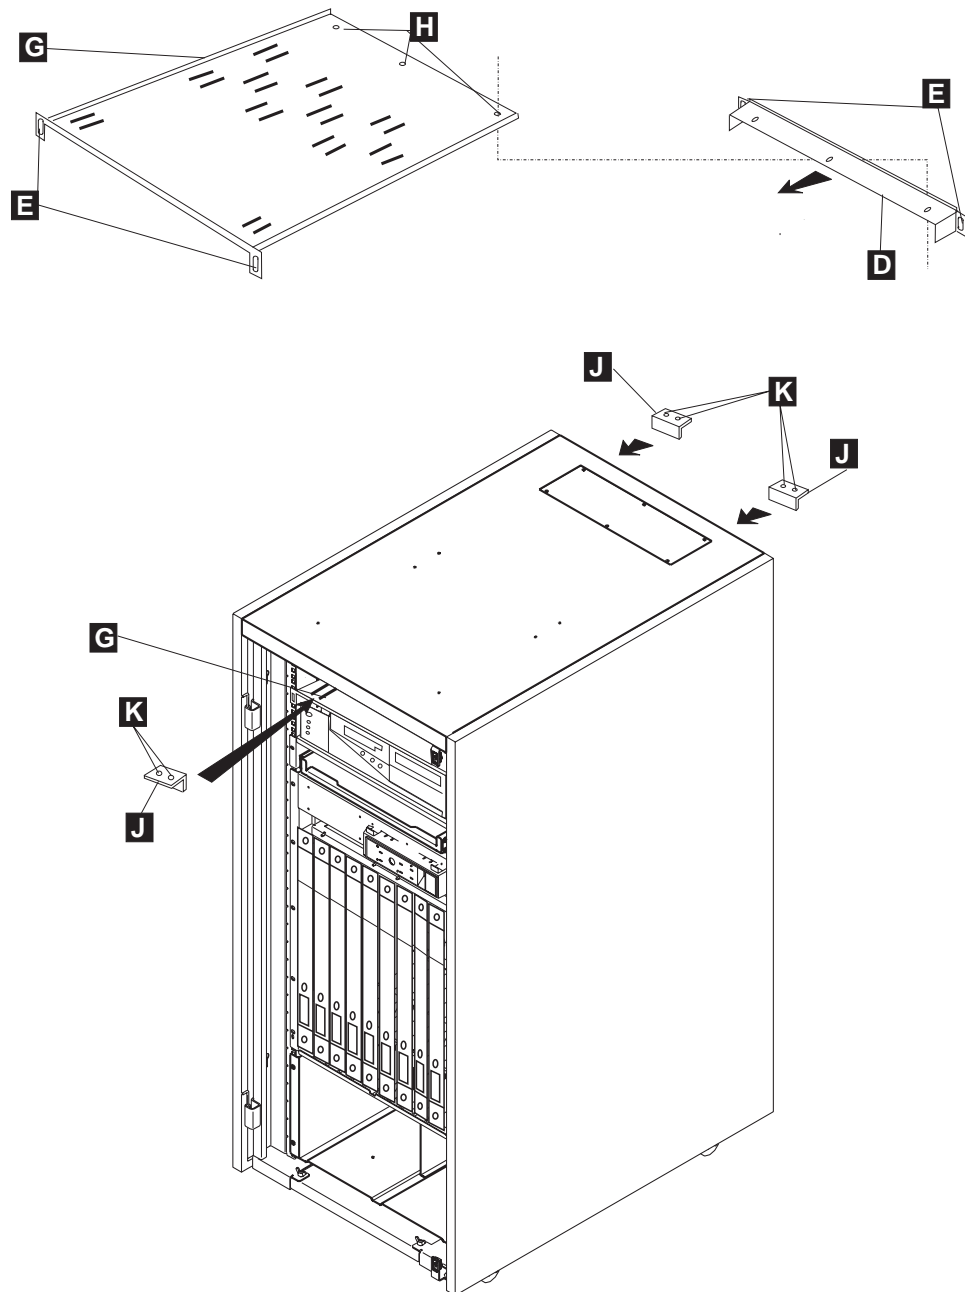

Figure 5-6. Upper Plate Removal in 29 U Rack 1)
1. Remove the screws **K** to remove the retainers **J** located under the plate **G** (see Figure 5-6).